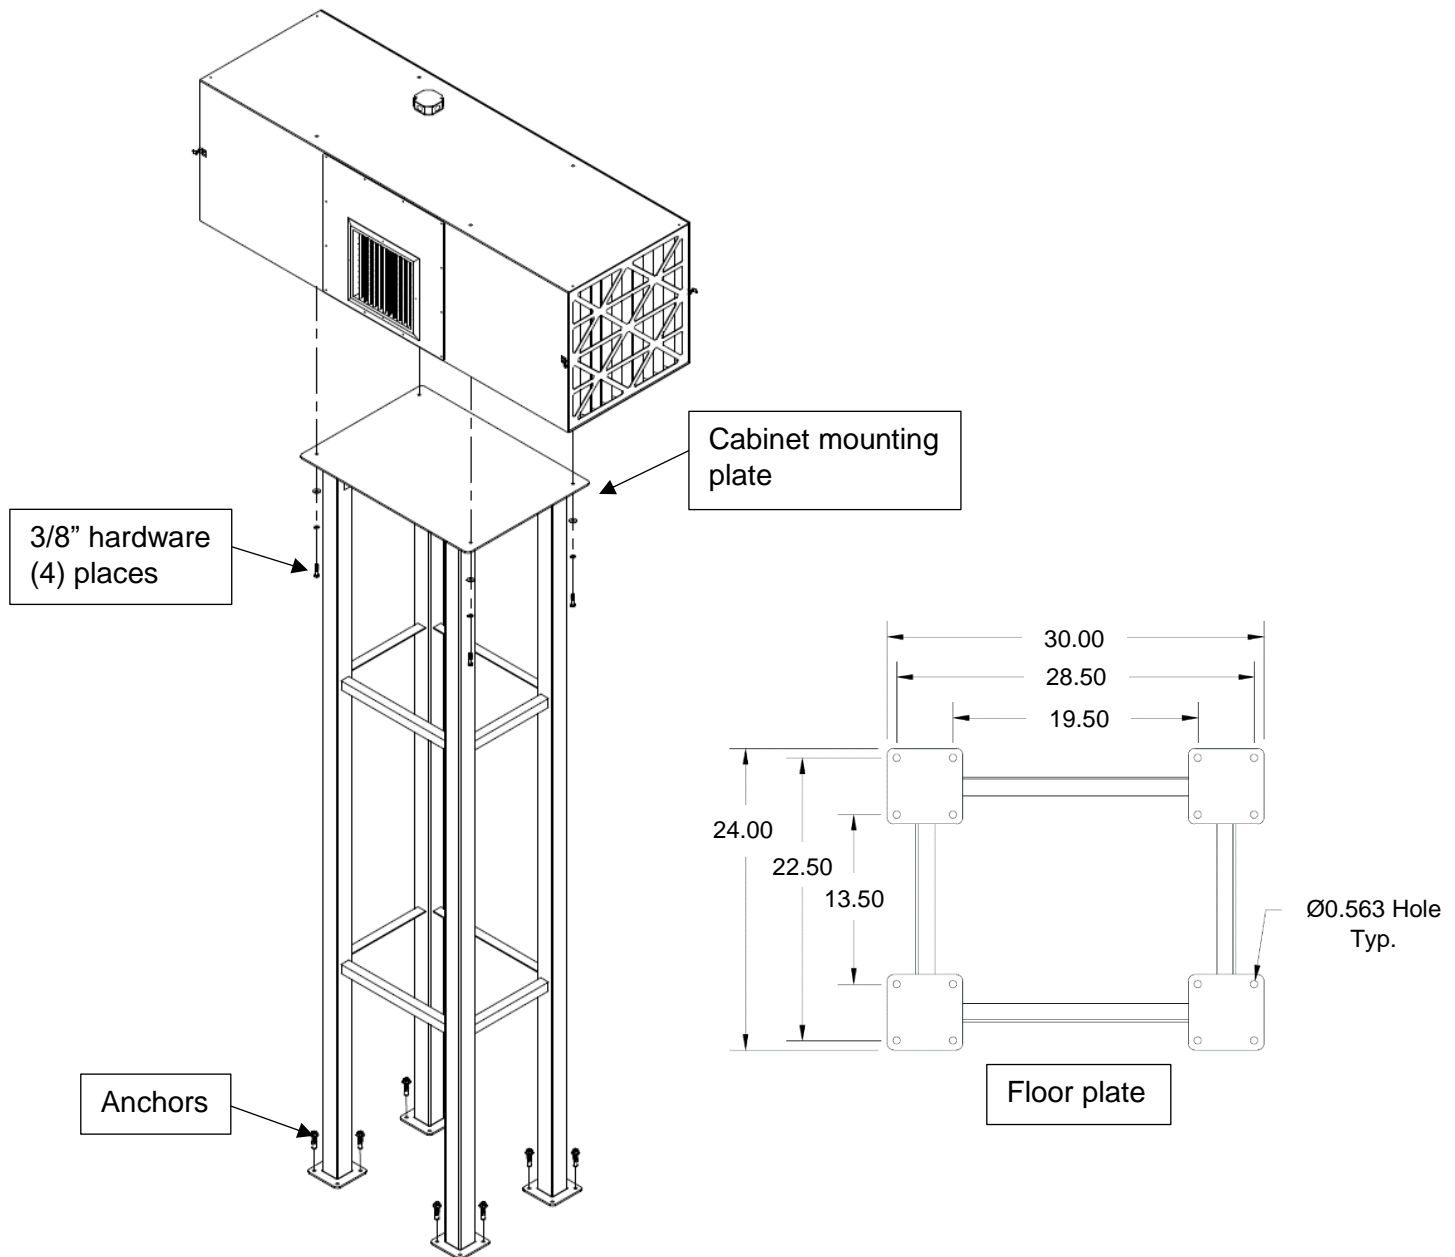

FIG. 4
4. Install cabinet to floor stand by bolting to the bottom of the cabinet with the hardware supplied (See **FIG. 4**).